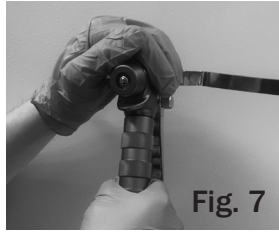

Fig. 7
- 4.- Remove the filter with the lad of the trigger guard if necessary (figure 7). Clean with the right solvent.